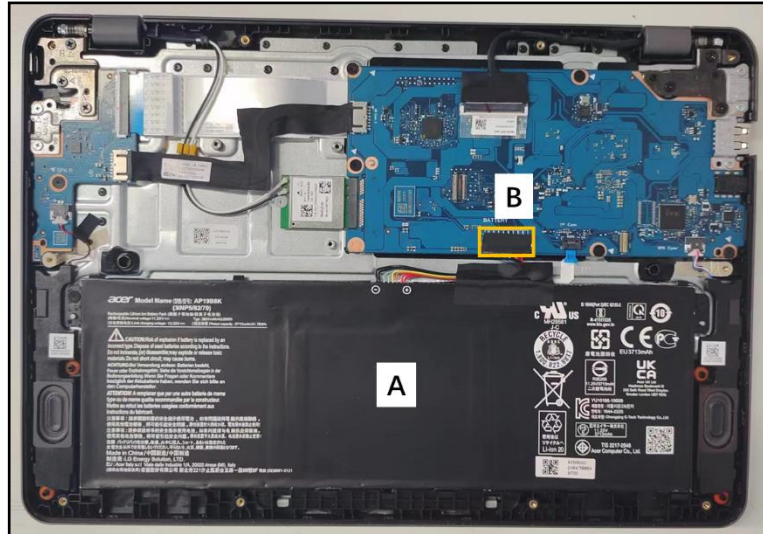

Figure 3-6. Battery Pack Removal
1. Find the battery pack (A) on the top assembly (Figure 3-6).
2. Detach the transparent mylar (B) securing the mainboard connector (Figure 3-6).